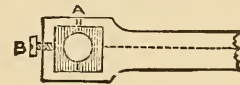

Fig. 28.
The connecting rods T should be cut to the form shown in Fig. 28, and the ends squared out and a brass bush filled in with a hole drilled from top (A) to oil by, and a set-screw B fitted to adjust the bearings perfectly.